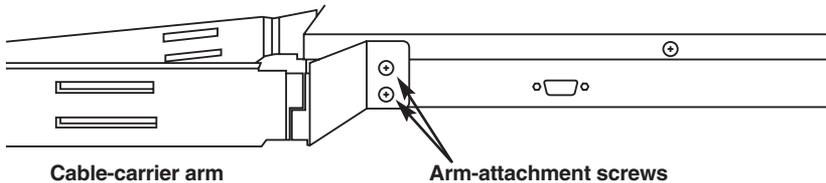

Figure 4-2. Attaching the cable carrier to the ServView.
3. Attach one end of the cable-carrier arm to the back of the ServView with the included 8-32 x 1/4" screws, as shown in Figure 4-2. Be careful not to attach this upside down: Make sure that the small "tab" section with the screwholes is oriented toward the inside of the rack, not toward the outside.